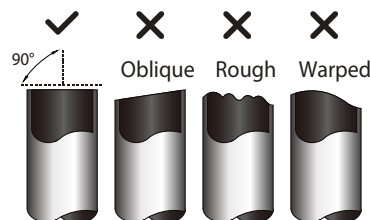

Fig. 15 — Pipe Cutting
- a. Cut the pipe, with a pipe cutter, at 90 degrees (see Fig. 15).